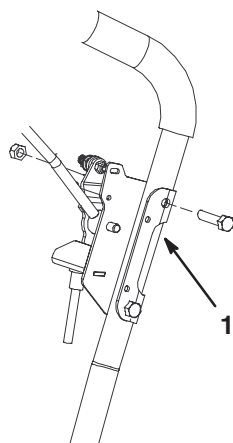

Figure 2
2. Remove screw and nut securing top of left and right control brackets to handle bar (Fig. 2). Discard screws and nuts.